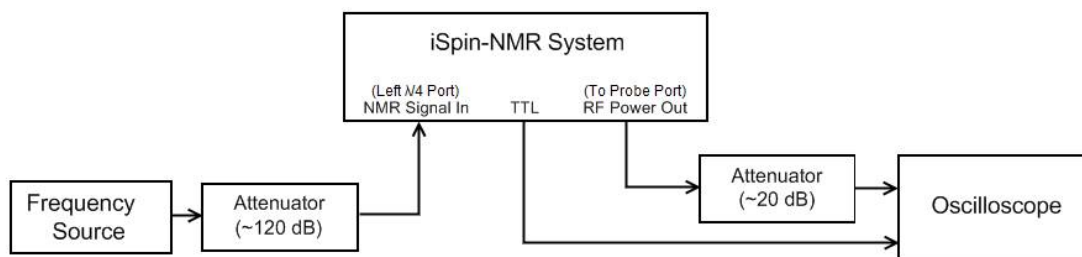

Figure 7: *iSpin-NMR* test setup.
2. Connect your iSpin-NMR system as shown in Figure 7. For iSpin's with SMA connectors that match Figure 5, the 'To Probe' connector is the 'RF Power Out' connector and the left 'N/4' connector is the 'NMR Signal In' connector. Note that pin-4 on the TTL output DB-9 connector is the blanking signal and can be used to trigger the oscilloscope.